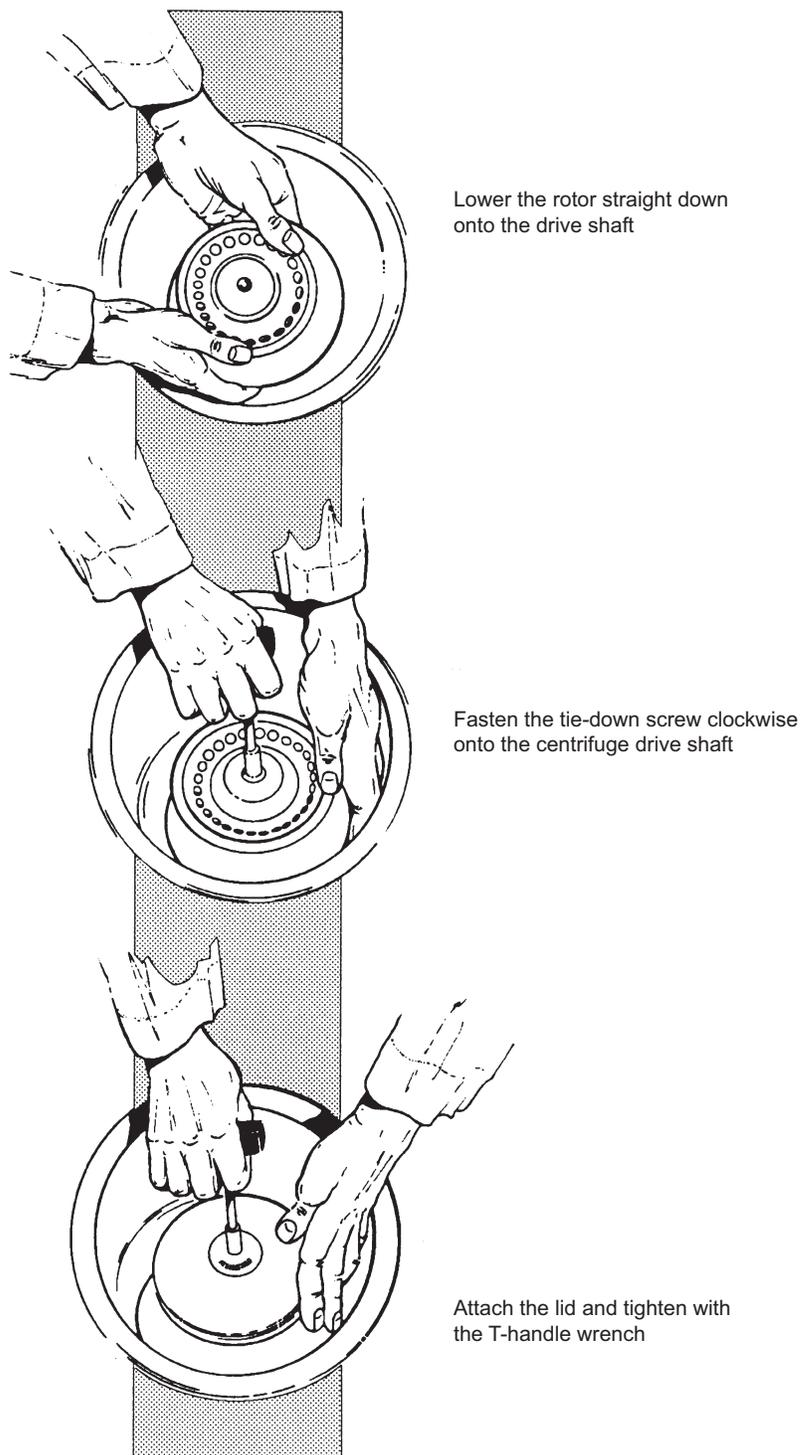

Figure 2. Installing the Rotor on the Centrifuge Drive Shaft
2. Carefully lower the rotor straight down onto the drive shaft (see Figure 2). Be sure the rotor is properly seated on the shaft.